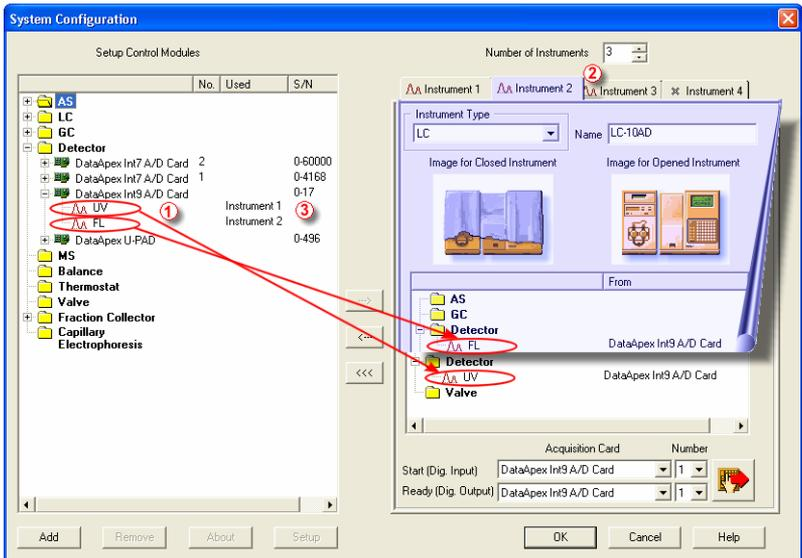

Fig. 5. System Configuration – multiple Instruments
Rather than dragging the entire **INT9 A/D Card Driver** icon from the **Setup Control Modules** list ① (see Fig. 5), drag the individual detector signals (**TCD**, **FID** in this case) to separate Instruments ②. The Instrument to which the particular signal is connected is listed to the right ③ of the detector name in the **Setup Control Modules** section.